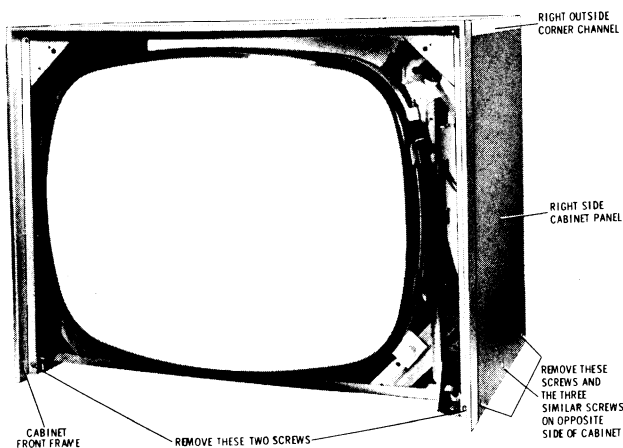
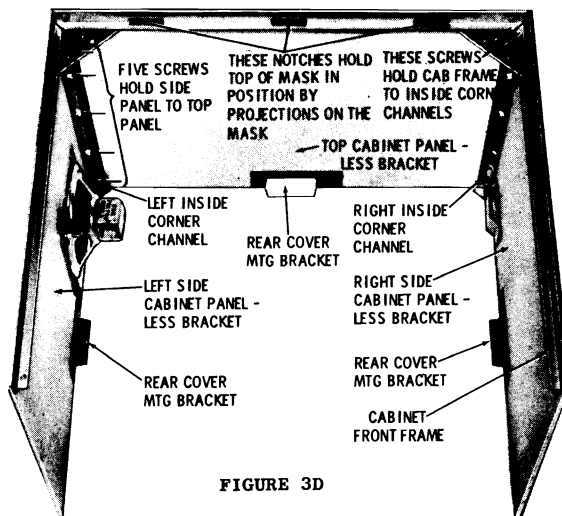

FIGURE 3C
FIGURE 3D
CABINET WRAPAROUND REMOVAL is completed by pulling off the side UHF tuning knob (on UHF models only) and unscrewing eight (8) screws; three on each side of the cabinet side panels and two at bottom of cabinet-front-frame. (When removing screws, avoid twisting cabinet, since this will bind screws making removal difficult.) The cabinet wraparound can now be slipped up and off of the complete chassis assembly. (See Figure 3C.)
ASSEMBLY OF CABINET WRAPAROUND illustrates how the cabinet side-panels are held to the cabinet top-panel by five (5) screws in each inside corner channel. These screws tighten into the outside corner channels shown in Figure 3C, which match the cabinet color. The cabinet-front-frame is secured to the corner channels by four (4) screws, two in each corner channel. (See Figure 3D.)